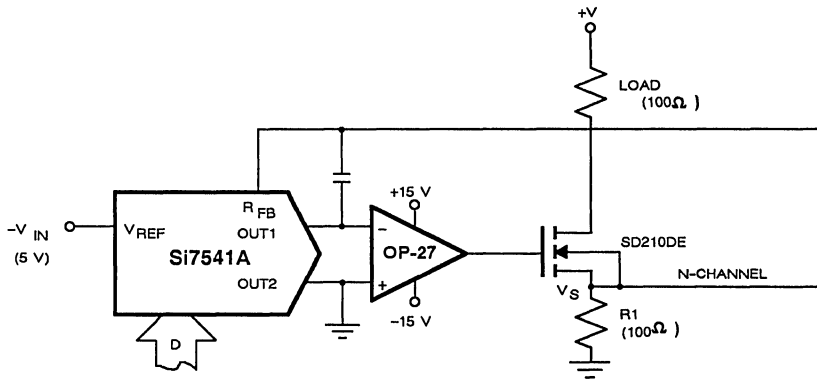

Figure 32. Programmable Current Sink
**Programmable Current Sink.** A simple, yet accurate, programmable current sink can be obtained by using a small-signal MOSFET and a single resistor, as shown in Figure 32. The voltage,  $V_S$ , is determined by the product of the digital input fraction and the reference voltage (i.e.  $V_S = -D \times V_{IN}$ ). Also,  $R_{FB}$  is in parallel with  $R_1$ , since OUT1 is held at GND potential by the virtual ground of the output buffer amplifier. Voltage  $V_S$  is across this parallel resistance; therefore, the current drawn through the load is given by
This equation can be approximated to  $I = (D \times V_{IN})/R_1$ , provided that  $R_1$  is small compared to  $R_{FB}$ . The ratio of  $R_1/R_{FB}$  determines the offset to this approximation. The maximum available current is limited by the potential drops across  $R_1$ , the MOSFET, and the load. For example, the circuit shown in Figure 32 is capable of 0 to 50 mA in steps of 12.2  $\mu$ A with a load of 100  $\Omega$ .